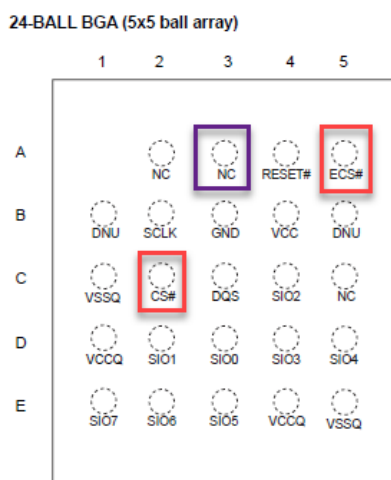

Figure 1. MX25UM Pin Description
The evaluation board has several 0 Ω resistors that can be added or removed depending on the device that is used. In this case, the original setting shows that R250 (corresponds to A5) and R247 (corresponds to C2) are not populated. It means that there is no connection to these pins. However, for this memory these pins are necessary as they provide the chip select signal and the ECC correction signal, so they must be added (shown in red). In addition, A3 in this memory is not connected (NC), it corresponds to R248 that must be removed (shown in purple). See Figure 1.